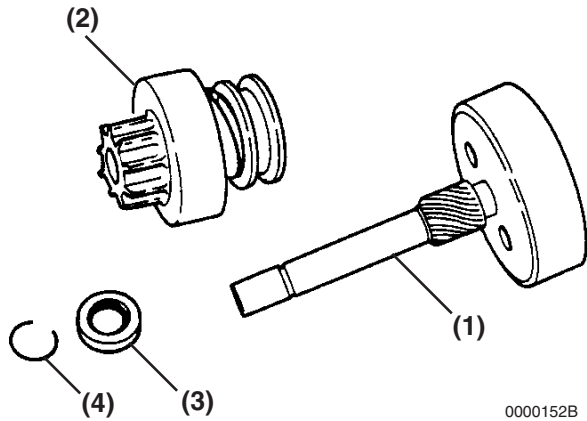

Figure 10-10
13. Remove the pinion stop (**Figure 10-10, (3)**), return spring (if equipped), and pinion clutch assembly (**Figure 10-10, (2)**), from the pinion shaft (**Figure 10-10, (1)**).